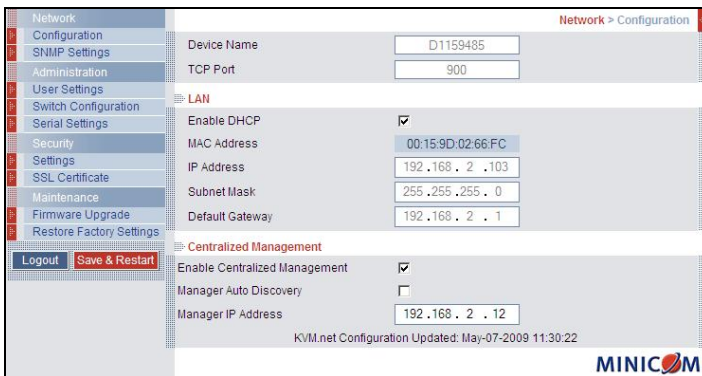

Figure 11 Configuration page
5. Press **Enter**. The Web interface opens at the Network Configuration page. See Figure 11.
Under LAN in Figure 11, is the following: